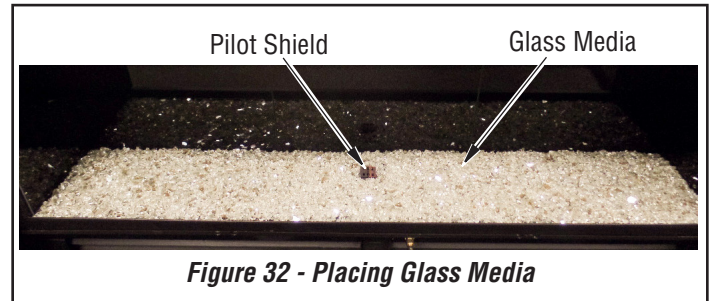

Figure 32 - Placing Glass Media
1. Place glass media in a layer evenly make sure only one layer of media on top of the burner and remaining media could be spread evenly across the remaining pan media. Ensure not to place media on top of the pilot shield, it is okay to place media around the shield (see Figure 32).